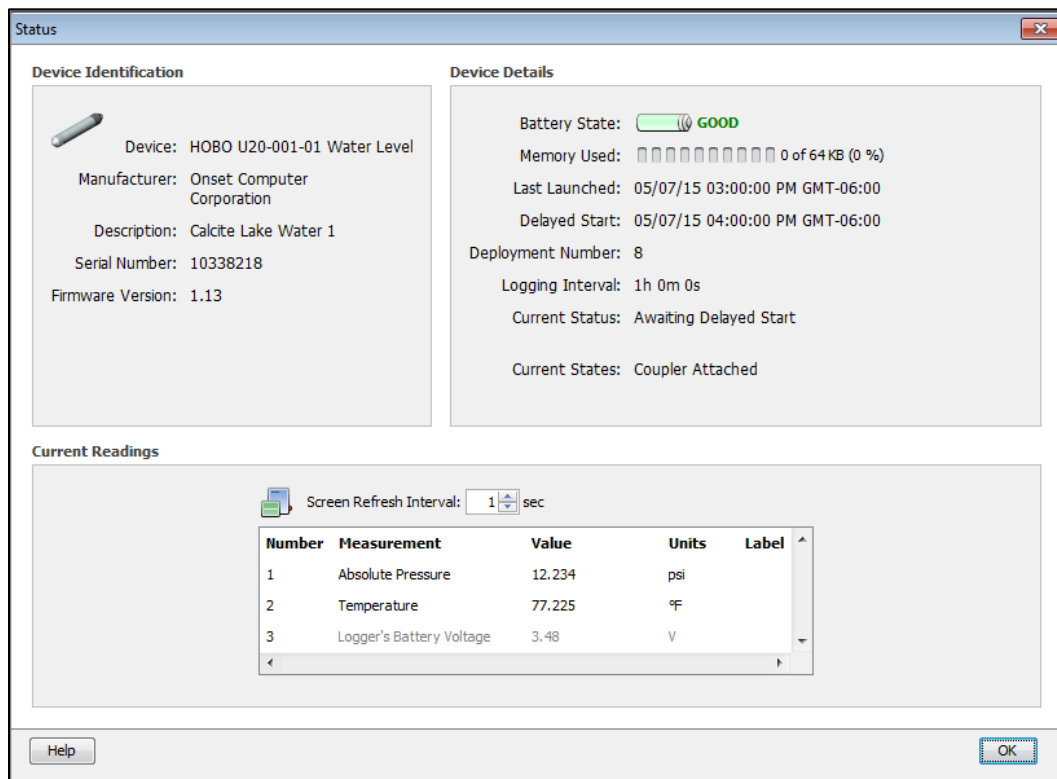

Figure B 7. Device status window.
8. To confirm that the logger has been launched, you can go to the “Device” menu and select “Status.” The status window will pop up and display information about the logger (Figure B 7).